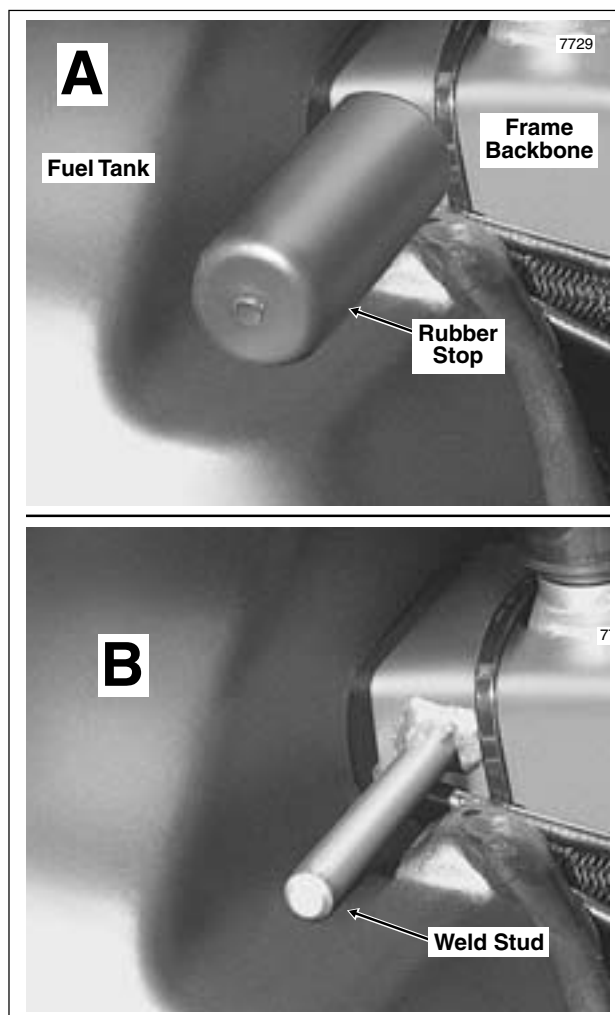

Figure 4-3. Remove Fuel Tank
12. Moving to front of vehicle, pry rubber stops from weld studs on each side of frame backbone. See A and B of Figure 4-3.
2. Standing at front of vehicle, push rubber stops onto weld studs on each side of frame backbone. Using a rubber mallet, tap stops until fully seated. See A and B of Figure 4-3.